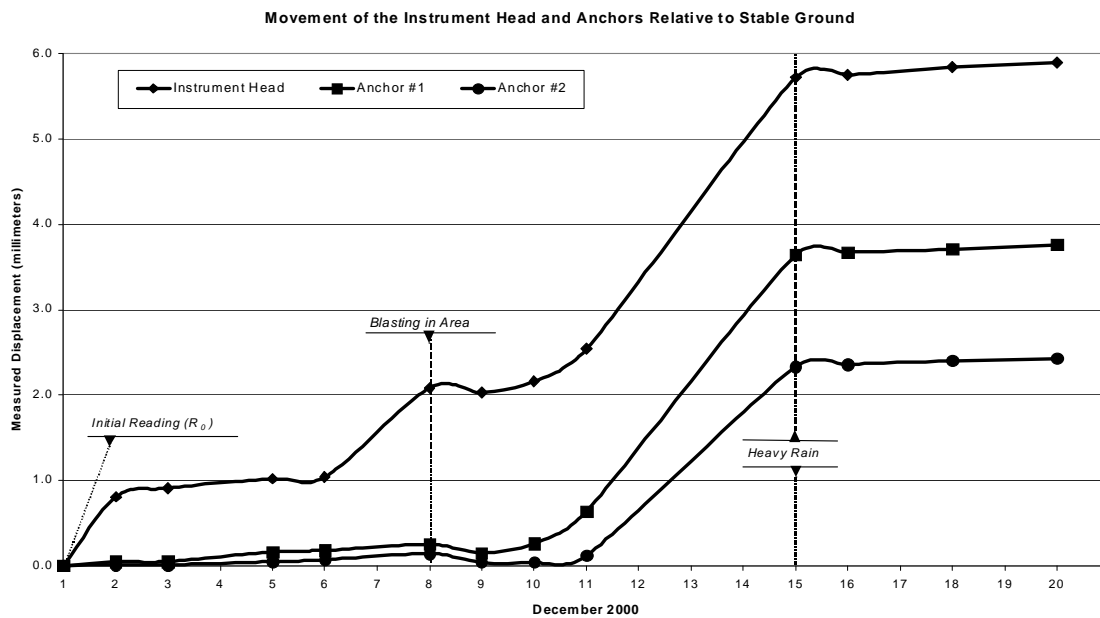
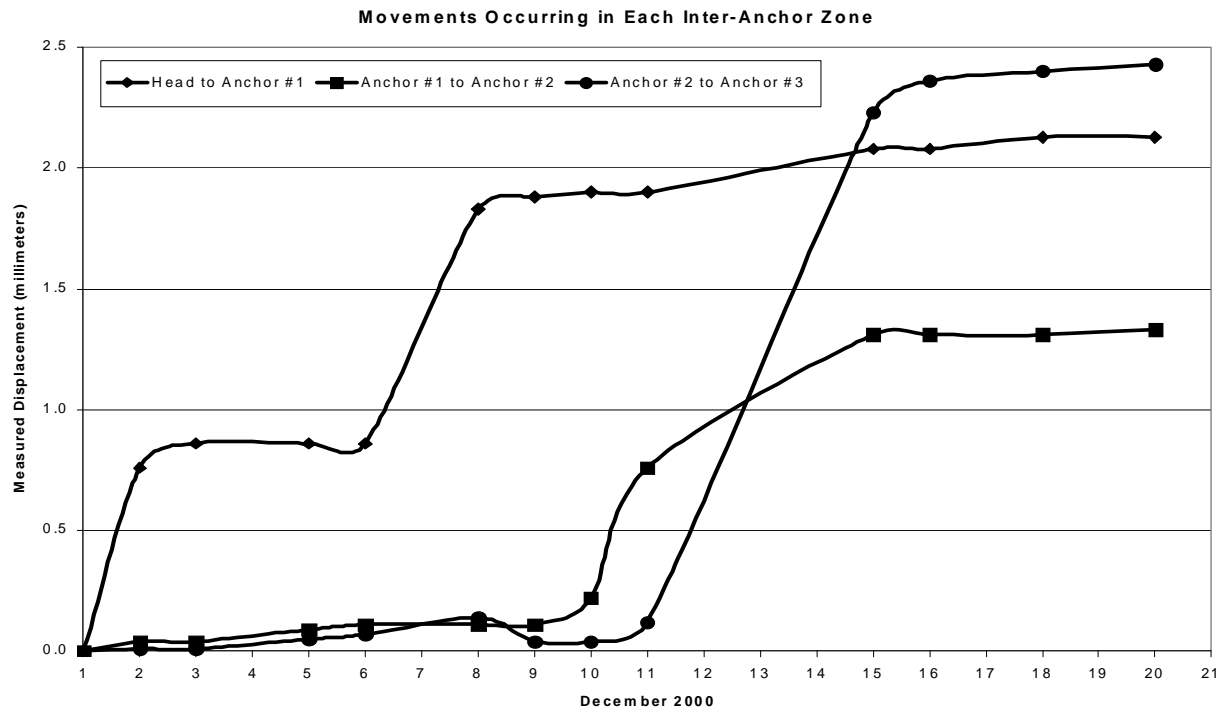

Figure 5. Movement of the Head and Anchors Relative to Anchor 3 in Stable Ground
Figure 6 Movements Occurring in Each Inter-Anchor Zone
6.1.3 The data shown in Table 3 could be plotted and shown in a graph like the one shown in Figure 5.
Inspection of the plot shows that initial movement occurred in the zone closest to the surface during the first 3 days and again on day 8 following blasting in the area. On day 15, following a heavy rainfall, deep-seated movements occurred in the zone between anchors 2 and 3 and also in the shallower zones. Movements occurring in any inter-anchor zone can be inferred from the spacing between the individual plots of Figure 5, or they can be plotted separately as shown in figure 6